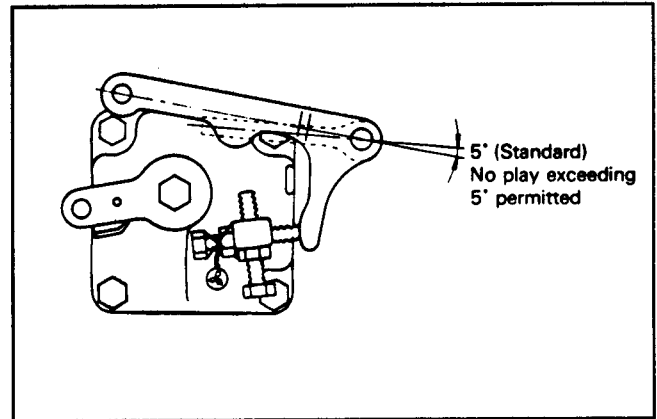

Figure 35
C. Install the governor spring lever and speed control lever so there is a minimum play of angle between levers (Fig. 35).